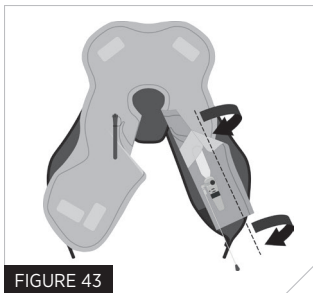

FIGURE 43
4. Fold and tuck outside edge under, along fold line 4 (Fig 43).